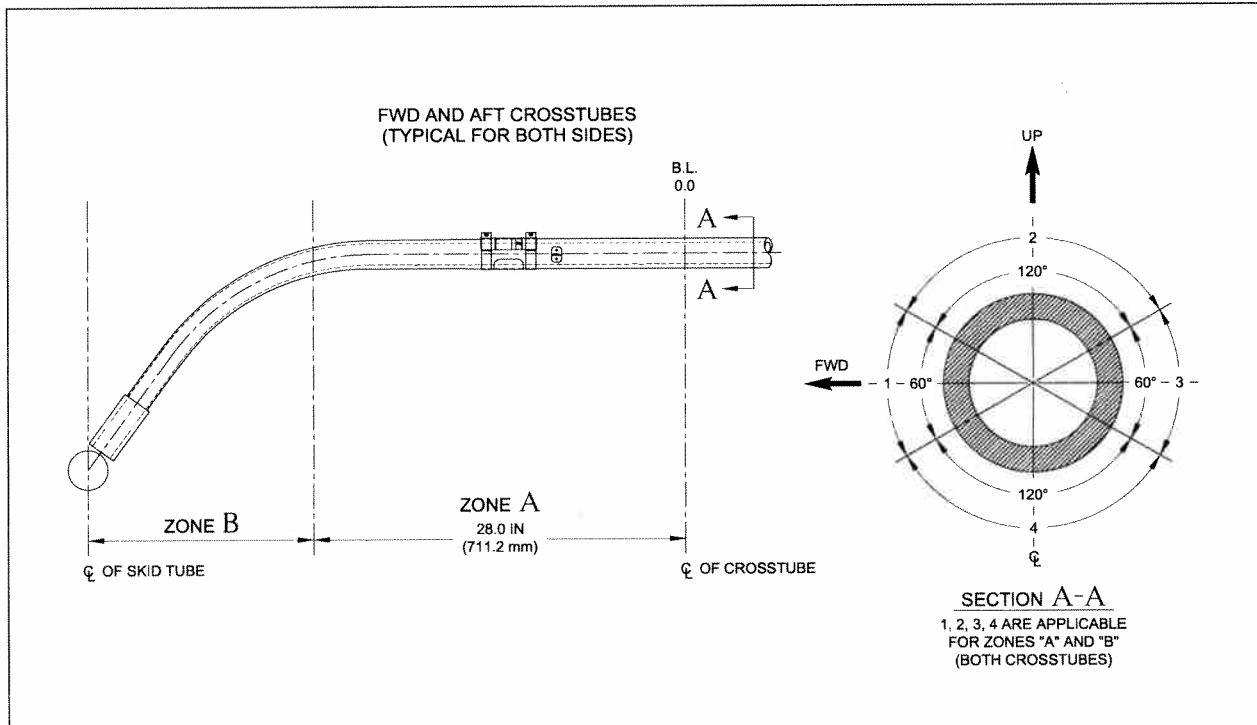

FIGURE 1. LOW SKID GEAR CROSSTUBE DAMAGE LIMITS
For torque and hardware identification, refer to Tables 3, 5, and 6 and Figures 1 thru 7.
1. Inspect crosstube for corrosion or damage (scratches, nicks, dents, and cracks). Refer to the zones shown in Figures 1 and 2 and Tables 7 and 8. _____